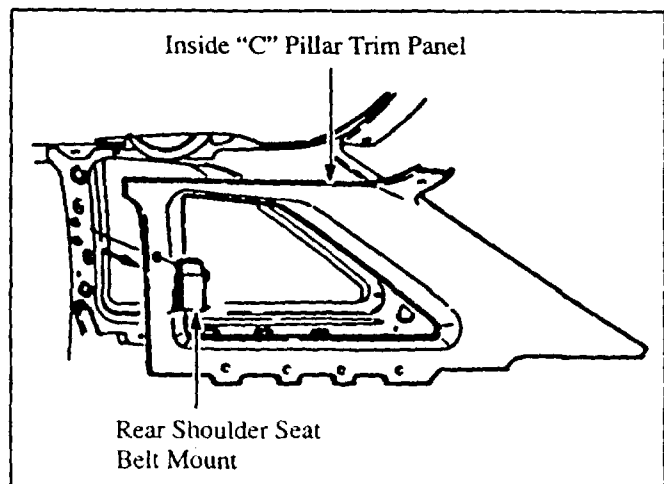

Figure 24: Removing Inside "C" Pillar Trim Panel
- If necessary, remove the rear shoulder seat belt mounts and inside "C" pillar trim panel(s). Remove the mounting nuts. Next, remove the rear window glass side molding. Figures 24 and 25.